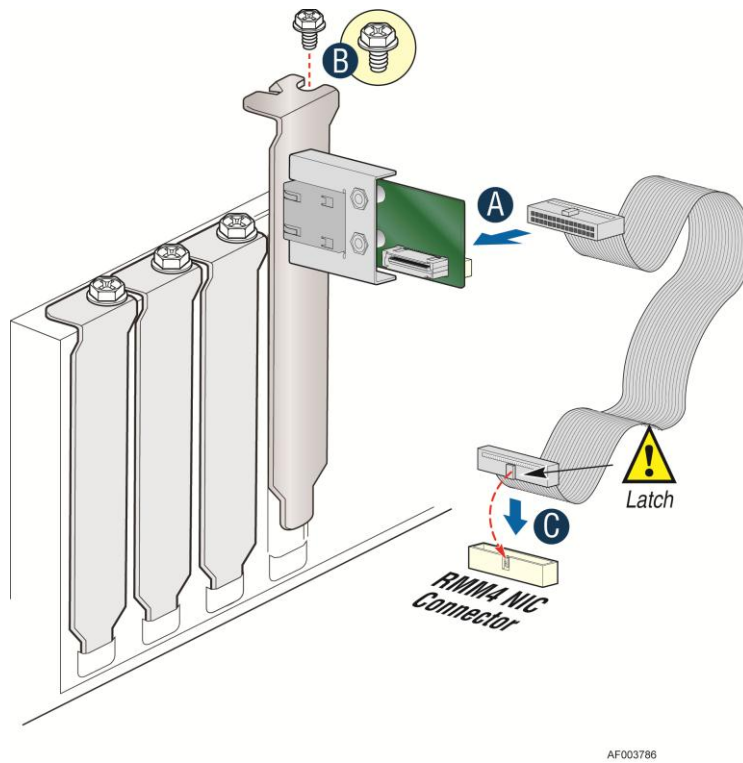

Figure 21: Adding the Intel® Dedicated Server Management NIC module on a 3rd Party Chassis
4. Attach the cable to the cable connector on the Intel® Dedicated Server Management NIC module as shown in Figure 21 (A). Mount the PCI slot bracket with NIC module to the 3rd chassis and secure with screw as shown in Figure 15 (B). Attach the cable to the RMM4 NIC connector (J5C1) on the server board as shown in Figure 21 (C).